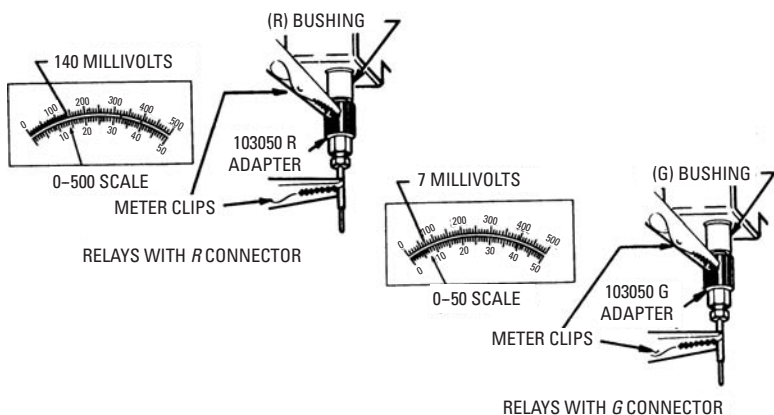

Figure 5-38 Relay bushing connections. (Courtesy ITT General Controls)
1. Attach the meter clips as shown in Figure 5-38. Reverse the meter clips if the needle moves to the left of zero on the millivoltmeter.